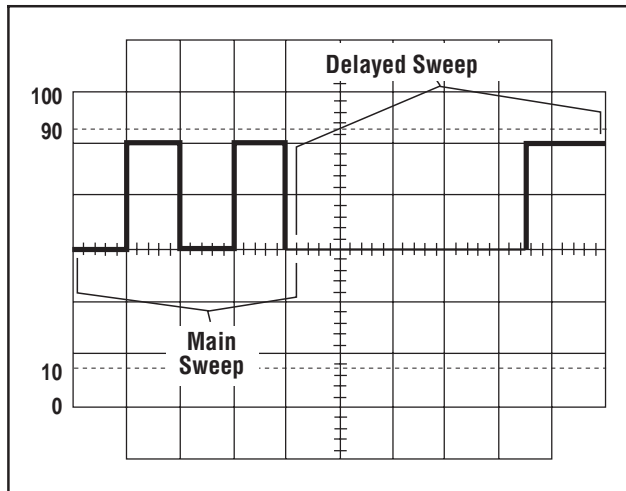

Fig. 5. MIX SWEEP MODE Display.
## DELAYED SWEEP OPERATION (Model 2160A) (Refer to Fig. 5)
2. Set the **Sweep Mode** switch to the **MIX** position. The display will show the main sweep on the left portion (representing the **MAIN Time Base** control setting) and the delayed sweep on the right portion (representing the **DELAY Time Base** control setting). The **MAIN Time Base** portion of the trace usually will be brighter than the delayed time base portion. Fig. 5 shows a typical display for the **MIX** display mode.